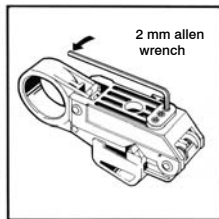

Figure 9
**I. Adjust blade depth** to match your cable size by turning allen screws at base of tool (Fig. 9).